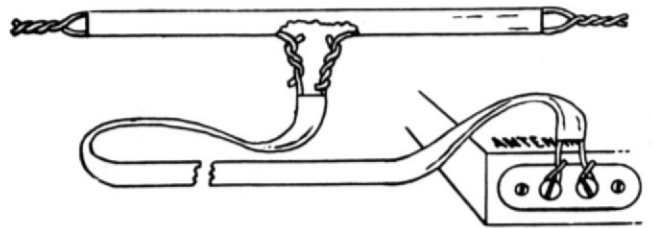

FIGURE 13.
1. Connect the dipole antenna wire supplied to the antenna terminals on the rear of the tuner. Connect one of the leads (see Fig. 13) to the G terminal and the other to the 300 ohm terminal. After the antenna has been screwed on tightly, spread the antenna wire out on the table. Make sure that no part of the antenna wire touches the chassis of the tuner.